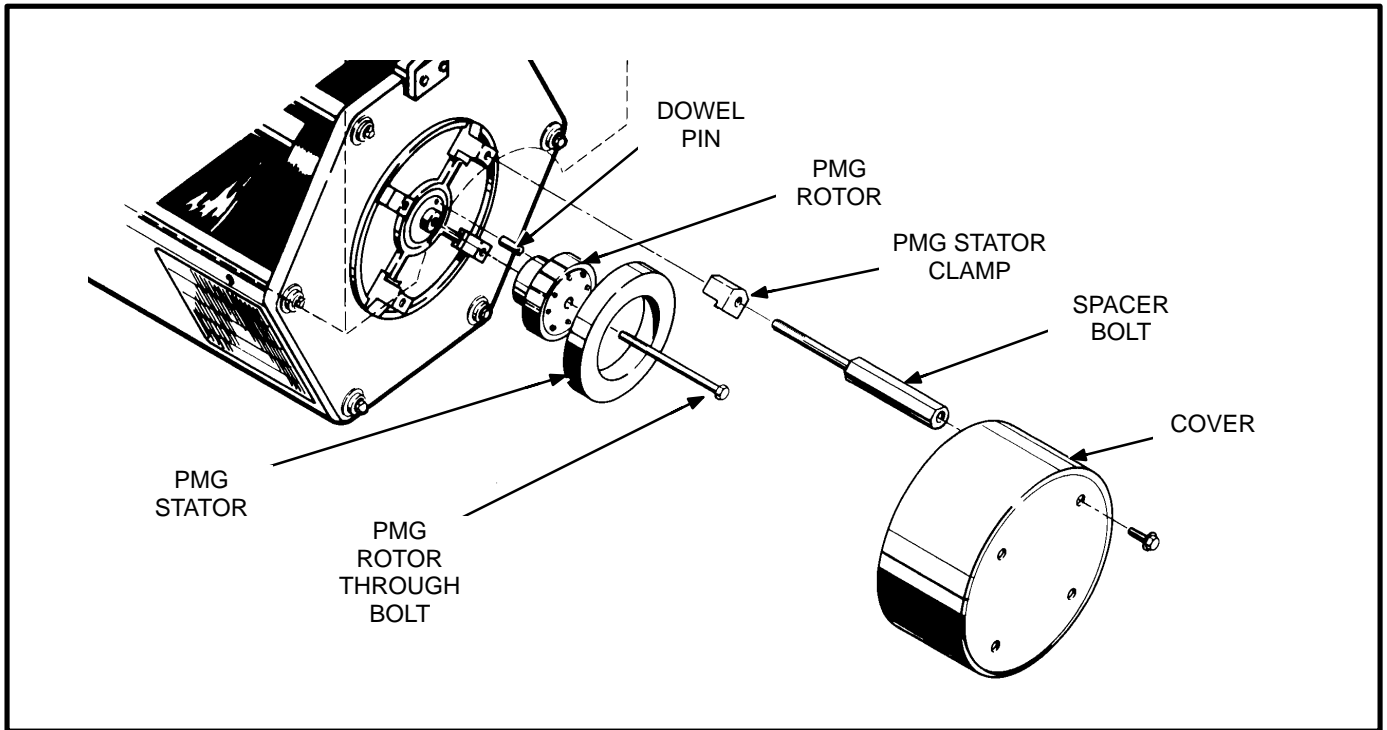

FIGURE 5-8. PMG ASSEMBLY
2. Remove the PMG cover (Figure 5-8) and disconnect the leads at the connector.